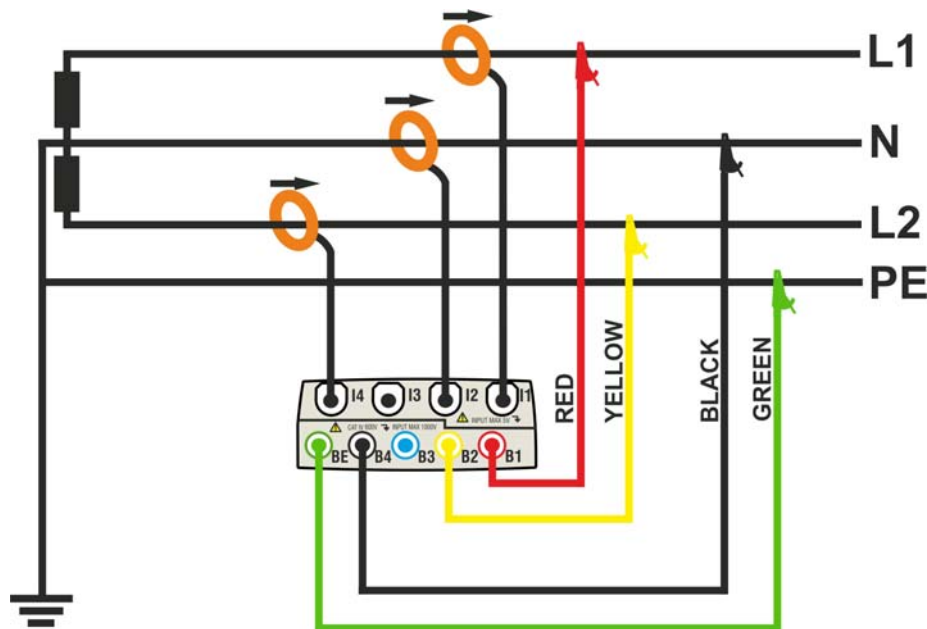

Fig. 131: Meter connection in a two phase 3-wire 1PH3W system – ENG\_UK type
2. Connect voltage test leads on Phases L1, L2, N and PE cables considering the colours as shown in Fig. 131
3. Connect the transducer current clamps on Phase L1, L2, N cables as shown in Fig. 131 respecting the clamp's arrow direction indicating the current standard sequence from generator to load. **On Real Time Values' section screens (selecting a 3 wire system preliminarily) always verify the positive value of Active Power and the power factor relative to load which should be normally inductive** before starting a recording. Reverse the clamp by 180 degrees on cables in case of negative readings.